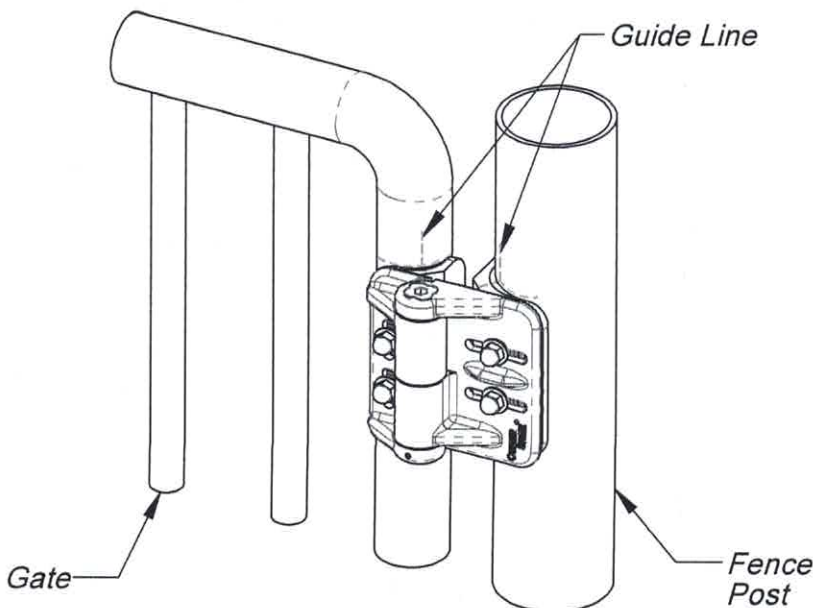
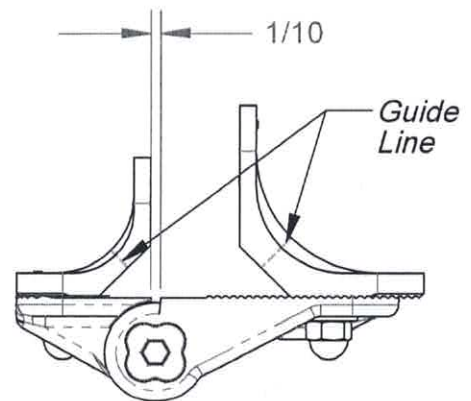

Fig. 1
Fig. 2
- 1 First, choose the desired direction of mounting. Applications using larger post and gate frames should mount the hinge so that the vertical adjustment is on the fence post and the horizontal adjustment is on the gate frame (Figure 1). Applications with smaller gate frames (1.5"-2") should mount the hinge so that the vertical adjustment is on the gate frame and the horizontal adjustment is on the post (Figure 1, 2).
Before installing hinge assembly, make sure fence post is vertical and firmly anchored and gate is properly blocked with desired gap to fence post in closed position. Attach both back plates to hinge, with appropriate shims if applicable, with hardware provided and desired gap. Make sure spring tension is in neutral position (see sht. 2). Mark the center of both back plates and shims, if applicable, as guide lines for positioning, as shown in fig. 2. Locate hinge assembly at desired height embracing both fence post and gate to full contact with back plates and shims at once, then using the guide line marks of hinge, mark the gate and post fence horizontally and vertically as shown in fig. 1. Make sure hinge assembly is not closed to its maximum position, a 1/10" gap between hinge leaves must be noticed with spring tension in neutral position, as shown in fig. 2